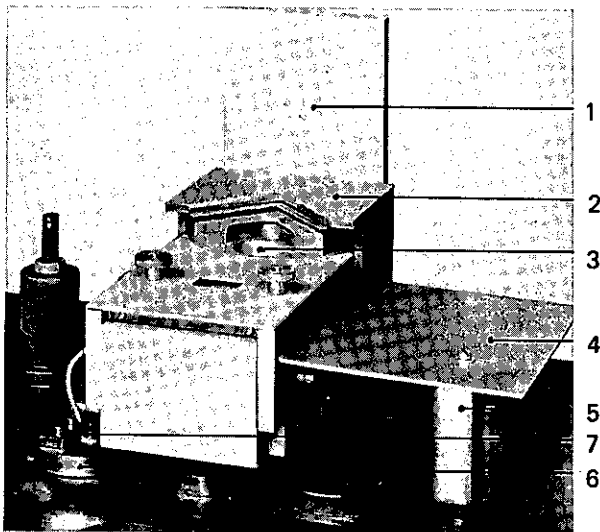

Fig. 3 Source complete with 4-way crucible
- l. Optically, the high voltage supply lines must be adequately screened from the high voltage feedthrough up to the source. The pertinent screening plate (fig. 3, item 4.), included in the source, must be cut accurately after installation to avoid frequent arcing during evaporation.
- m. If enough space is available, the deflection plate (fig. 3, item 1) may be bent backwards by  $90^\circ$  to crucible level. In this way, the cleaning periods can be extended considerably if larger batches of material are evaporated (Pot crucible).
The high current feedthrough (Fig. 3, Item 6) acts as a current supply for the upper section of the anode (X-sweep). The feedthrough must therefore be electrically insulated from the coating unit base plate by means of two insulating plates, Items 118 and 119 of the spare parts list BB 800 041 E/6 and an insulating tube. If the underside of the coating unit base plate is covered with an insulating protective film (anodized or brushed on), a ground line must be connected from the gun feedthrough to the fixed angle 3 of the high current transformer. The connection from the feedthrough to the anode is made with the installation material furnished in accordance with the lay-out of the gun and high current feedthrough. The coil current lead-in is mounted in the high current feedthrough (Fig. 3, Item 6).
Inner conductor to the centre tapping (secondary) of the filament current transformer T1 (screw M5); outer conductor (sheathing) to the earth screw (Fig. 3, item 3 of the operating instructions BB 800 062 BE).